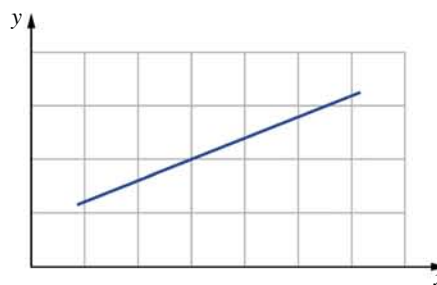

FIGURE 21.3.1 Trend line for variables that change in direct response to each other.
- Variables that change in linear or direct proportion to each other produce a straight trend line, as shown in Figure 21.3.1.